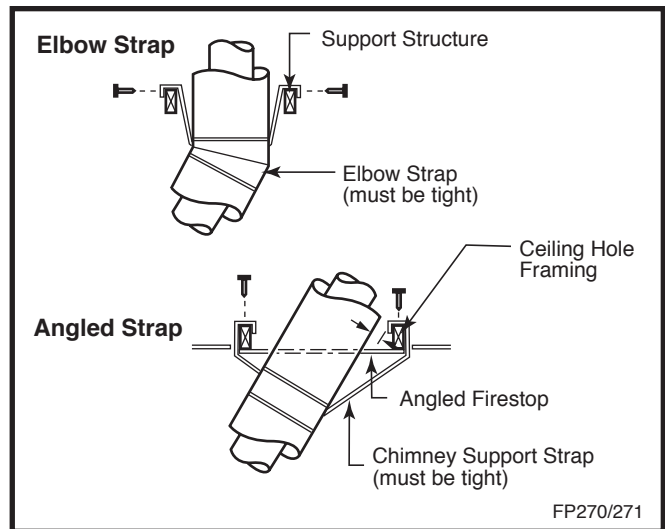

Fig. 33 Attach straps to a structural framing member.
7. Install roof support (Fig. 33) and roof flashing making sure upper flange of flashing is below the shingles.